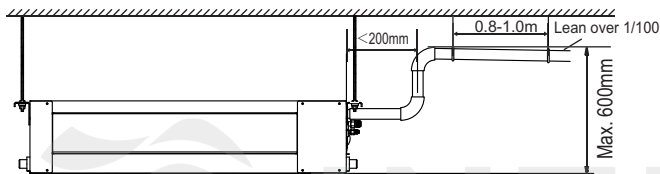

Fig. 8-2
- In case the drainpipe outlet is higher than pumping connective pipe of the main body, the drainpipe must be arranged upwards vertically by using connective assembly of the water outlet for vertical bending, and the height of the drainpipe shall set to the defrosting pan surface no more than 600mm, otherwise, too much backflow while shutdown would leads to overflow (Refer to Fig.8-2).(Only available for the unit with pump.)